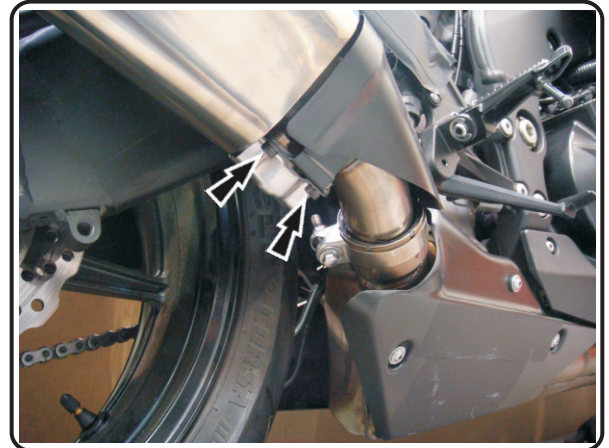

Fig. 1
- 1 Remove the exhaust valve cable cover (see Fig. 1 for bolt locations).